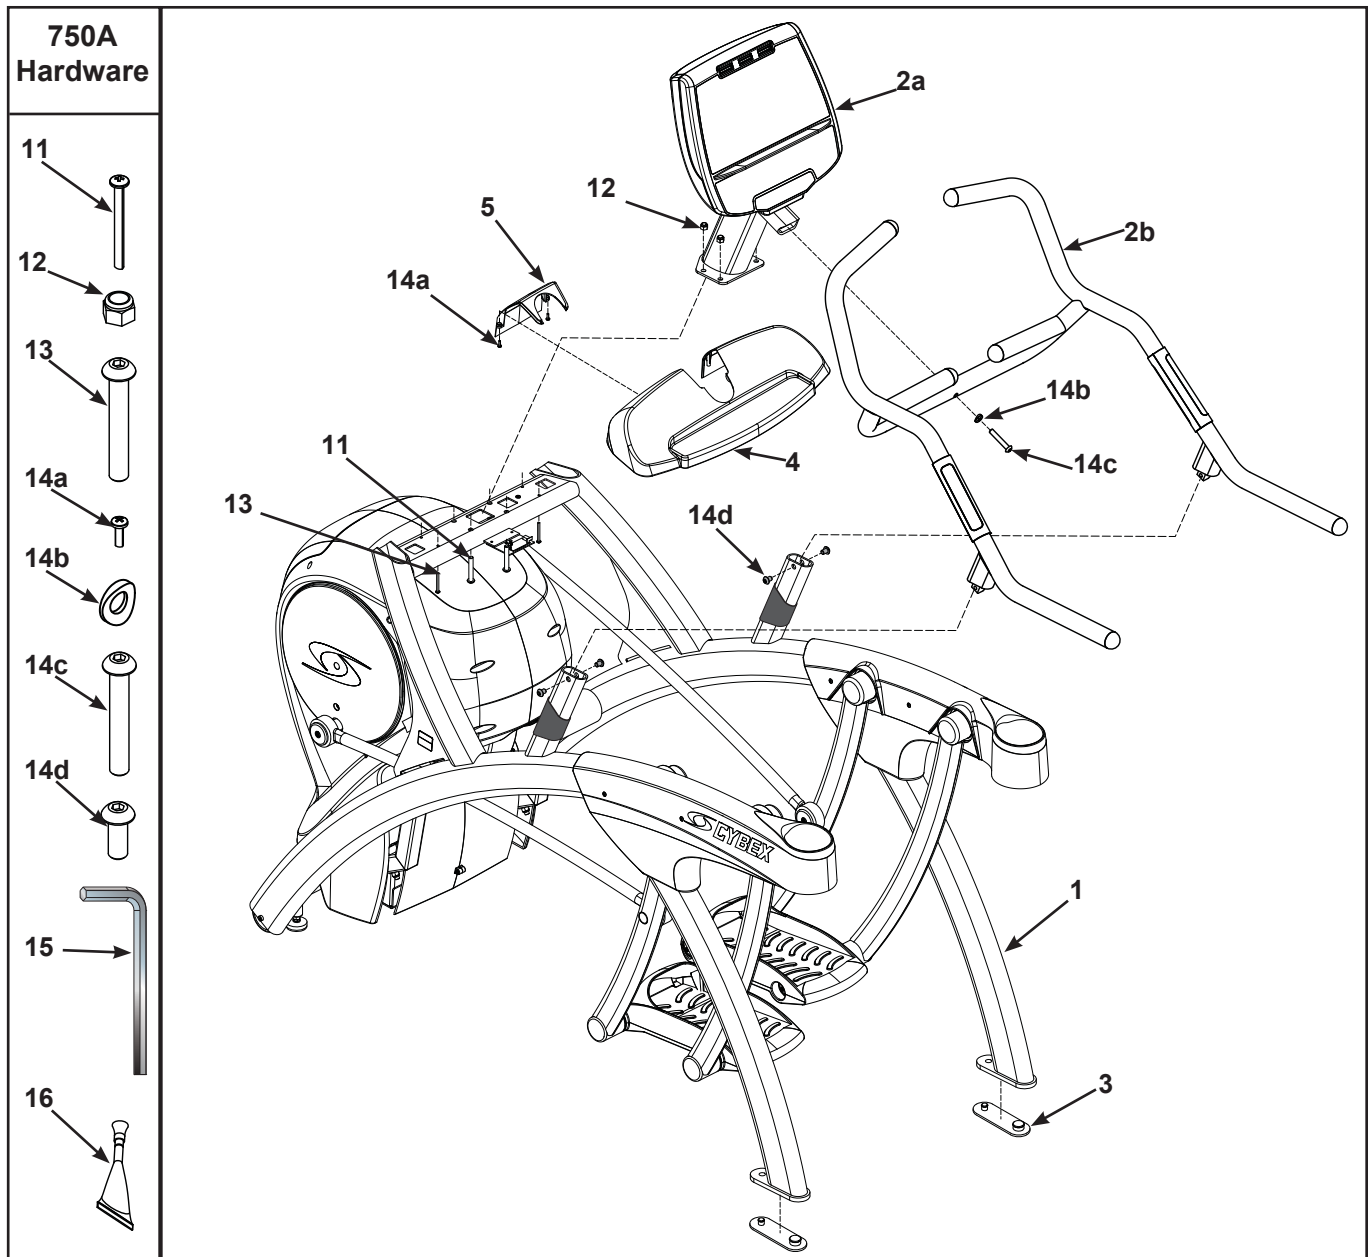

Figure 1b (750A)
- A. See 750A hardware pack listings and Figure 1b for 750A hardware pack contents.